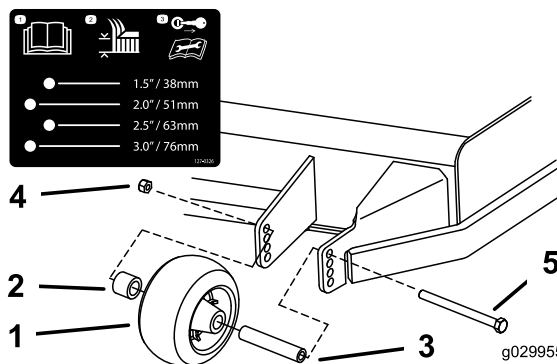

Figure 29
3. Adjust the anti-scalp rollers as shown in Figure 29.